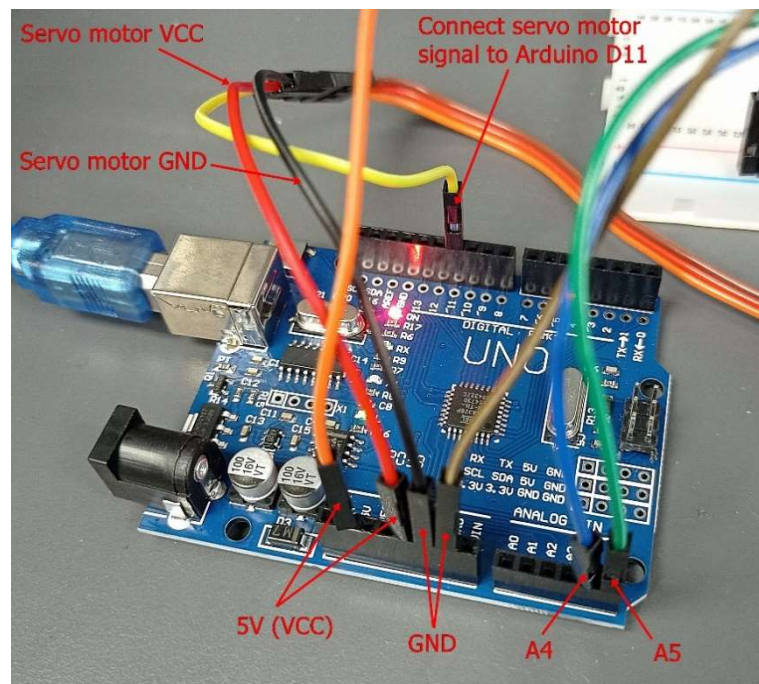

Fig. 6 Connections on the Arduino board
- b. Connect the servo motor and the sensor modules to Arduino board as shown in the Fig. 6.